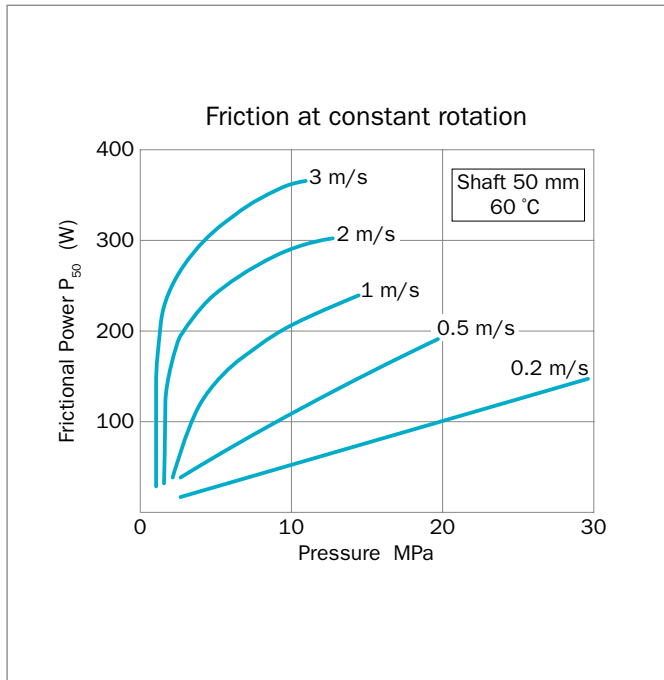

Figure 152: Frictional power for Turcon® Roto VL Seal®
Guide values for the frictional power (P) can be determined from the graph in Figure 152. They are shown as a function of the sliding speed and operating pressure for a shaft diameter of 50 mm with an oil temperature of +60 °C. At higher temperatures, these application limits must be reduced.